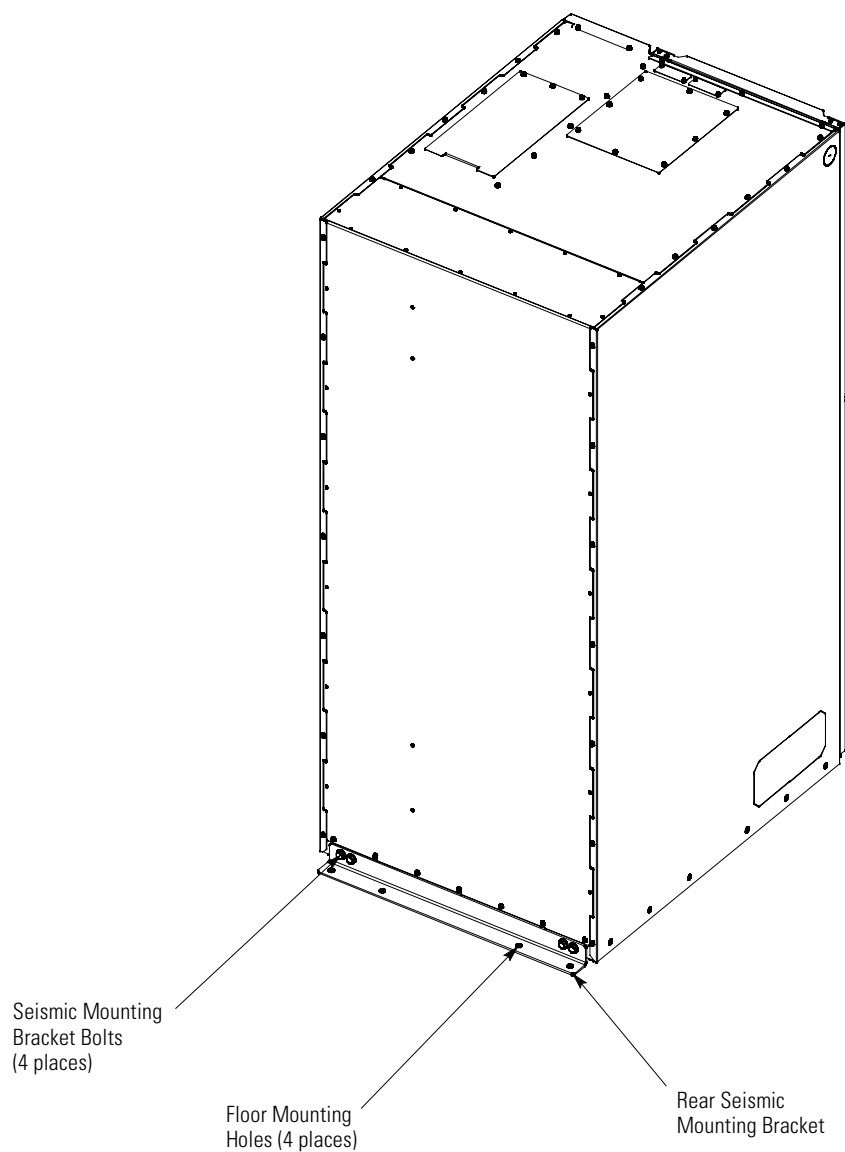

Figure 3. Rear Seismic Mounting Bracket Installation
4. Remove the rear seismic mounting bracket from the kit and secure to the UPS cabinet base using the bolts supplied with the kit. See Figure 3 for mounting bracket installation location.